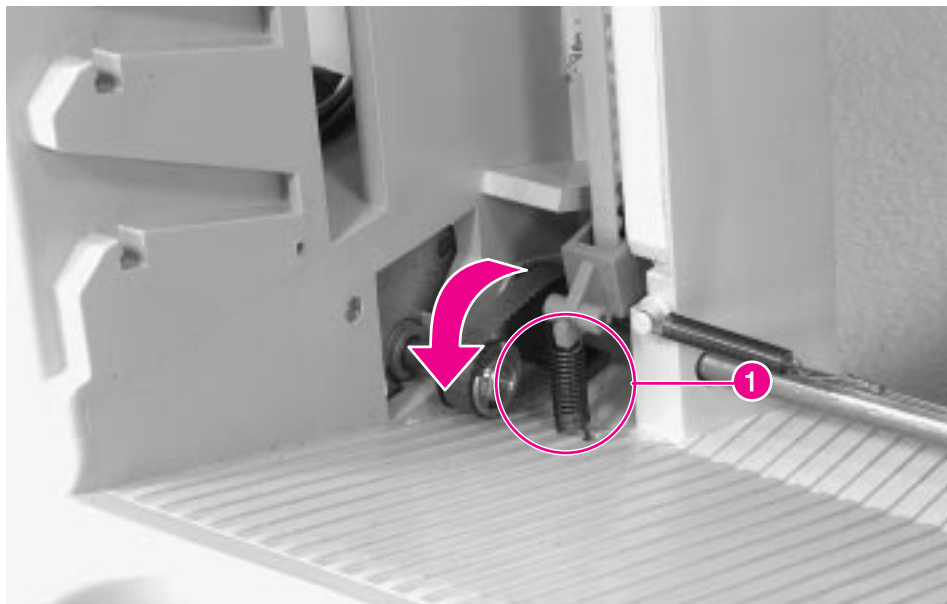

Figure 6-66 Mailbox with Stapler, Elevator Pulley Tension Spring
- 2 From the front of the unit, disconnect 2 tension springs (figure 6-66, callout 1).